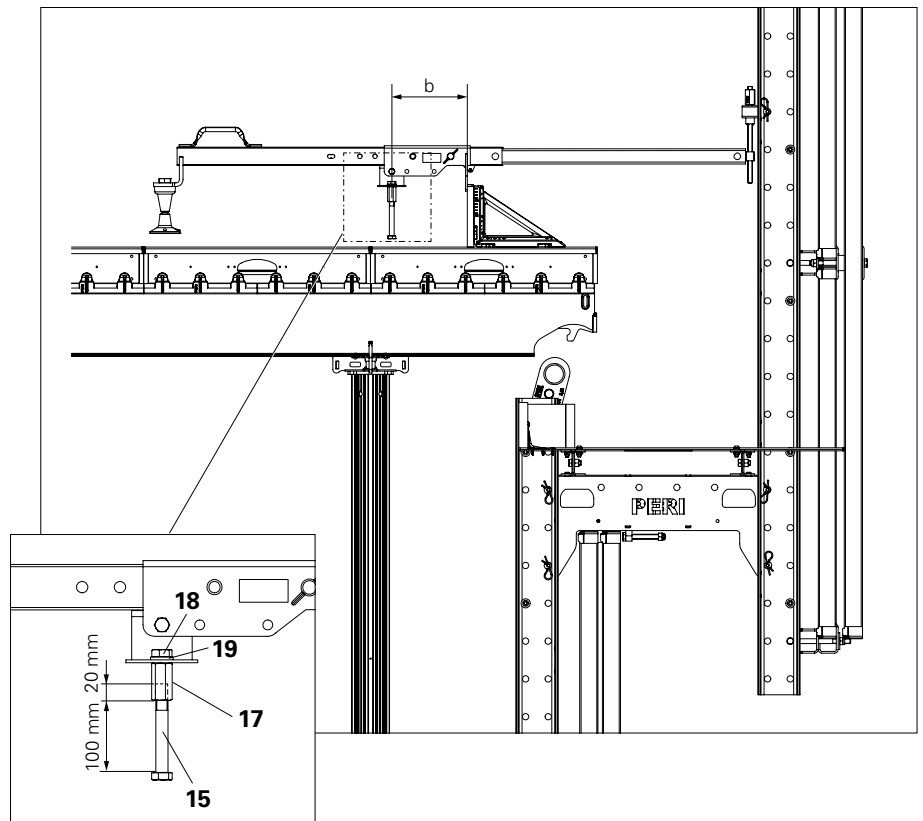

Fig. D1.03
1. Attach two long Nuts M16x50 (17) 20 mm to Bolts, e.g. M16x120 (15).
2. Secure with other Bolts M16x30 (18) and Washers (19) in the bracket for the Anchor Bolt (16.6).
3. Tighten Bolts M16x120. (Fig. D1.03)